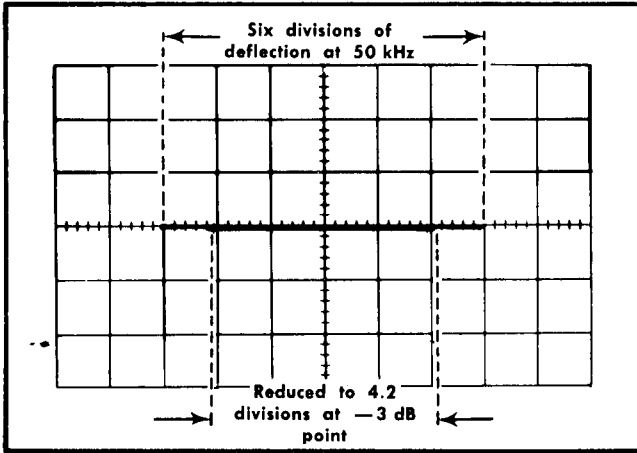

Fig. 6-53. Typical CRT display when checking external horizontal bandwidth ( double exposure ) .
- c. Without changing the output amplitude, increase the output frequency of the generator until the horizontal deflection is reduced to 4.2 divisions (-3 dB point; see Fig. 6-53).